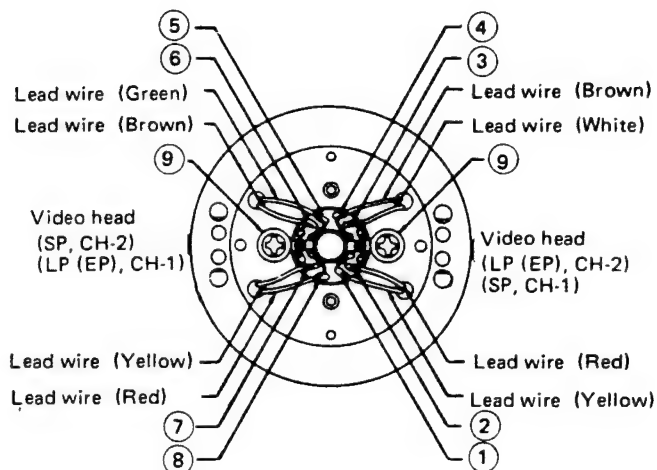

Figure 31.
1. Set in place the new upper drum as shown in Fig. 31, and arrange the leads to be at their specified positions.